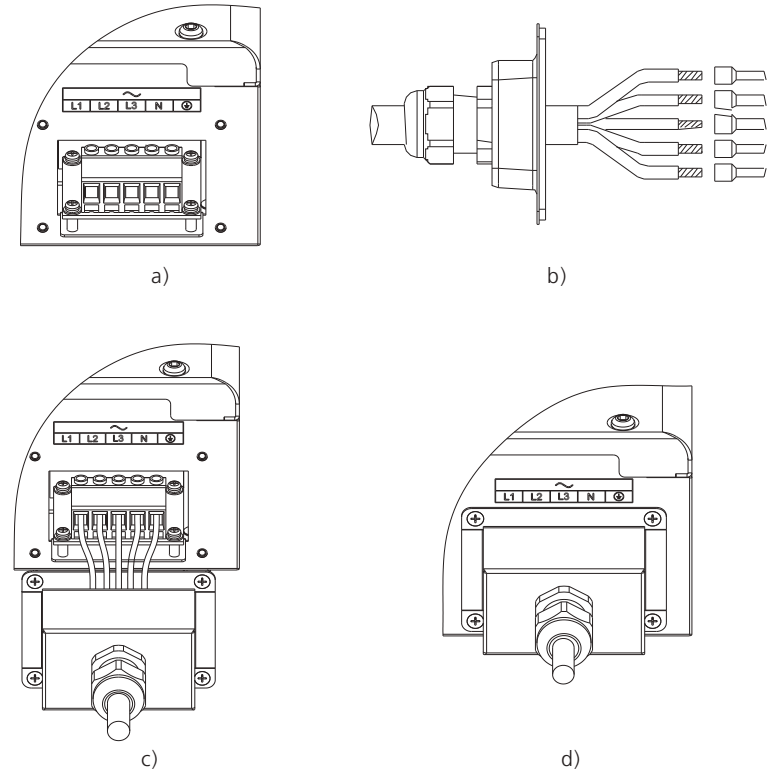

Fig 6
2. The five cables should be put through the protection shell, as Fig. 6 b, crimp five standard cables with Cord End Terminal. Tighten all screws. Refer to Fig. 6c.